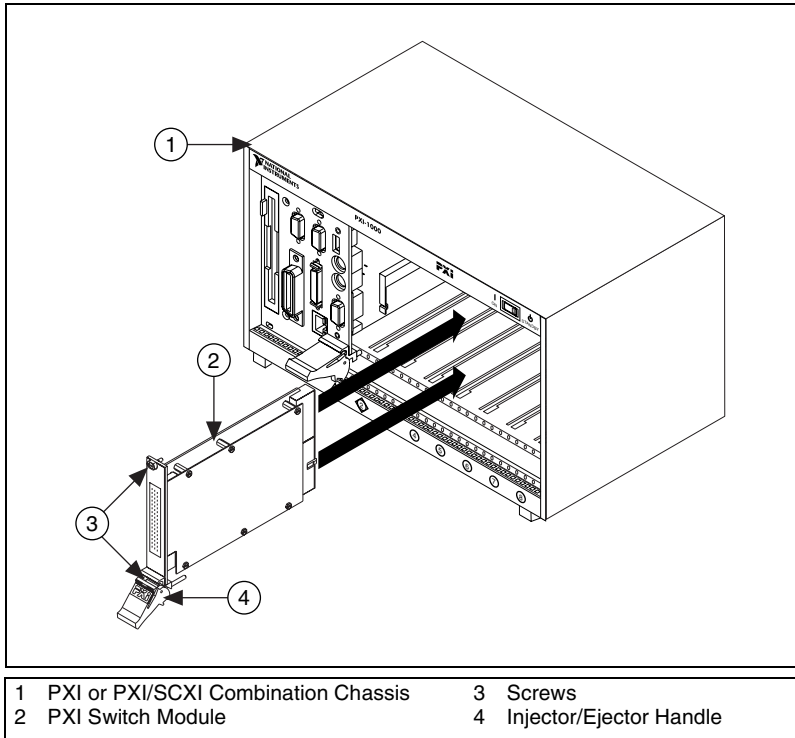

Figure 1. Installing a PXI Switch Module
5. Holding the device by the ejector handle, slide it into an empty slot, ensuring that the base card (the card on the left when looking at the front of the device) engages with the card guides in the chassis, as shown in Figure 1.